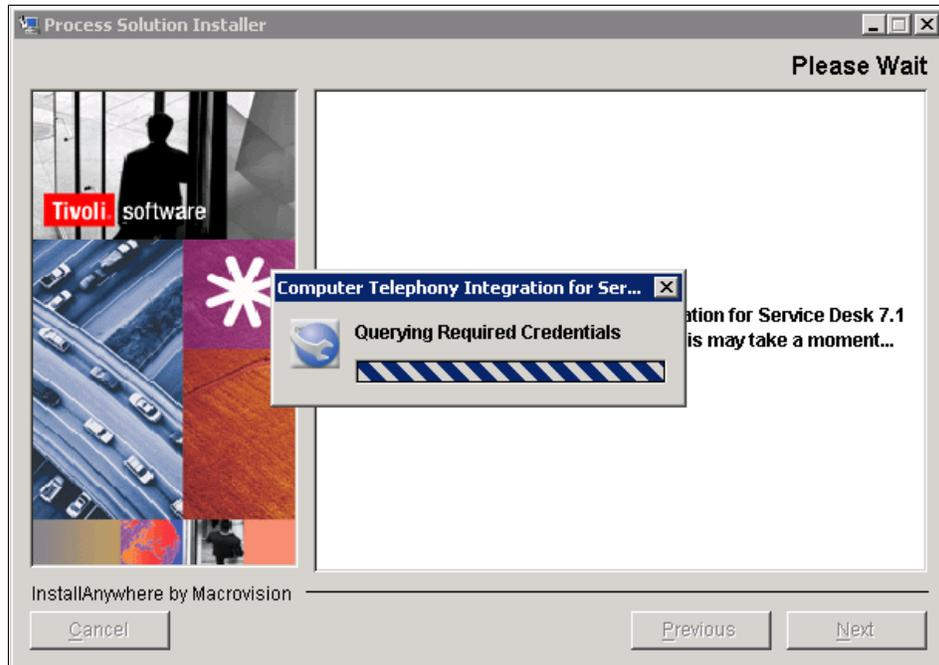

Figure 8-6 Required credentials
13. A dialog box appears to query the required credentials, as shown in Figure 8-6 on page 225.